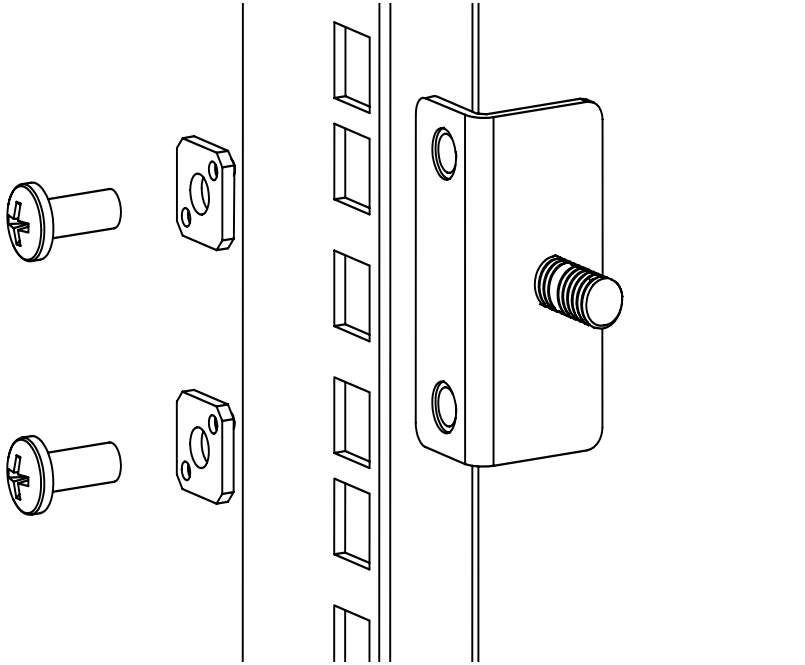

Figure 7 Installing the rear mounting brackets (HP 10,000 series)
- For an HP 10,000 series, assemble each of the two brackets with (2) #10-32 x 1/2-inch Phillips pan-head screws with captive star lock washers and (2) #10 adapter washers as shown in Figure 7.